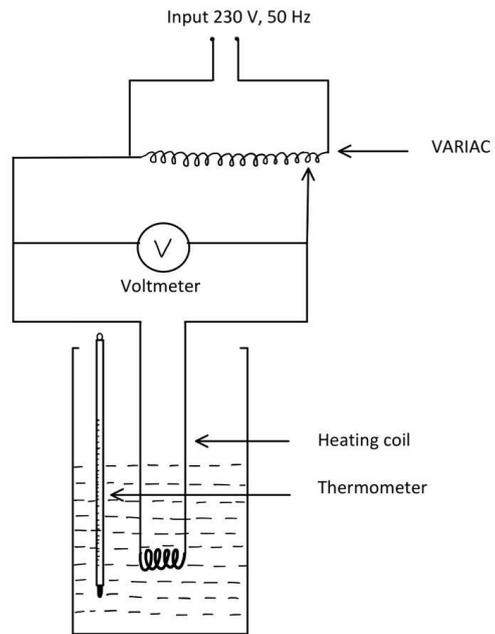

Fig.1 Circuit diagram
2. Connect leads of the kettle with VARIAC output sockets and connect an AC Voltmeter of 300V across VARIAC output sockets as shown in fig. 1.